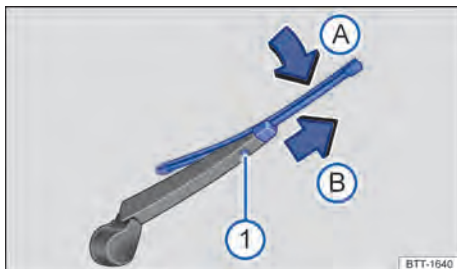

Fig. 181 At the rear of the vehicle: changing the rear window wiper blade.
① Release button.
2. Press and hold the release button → Fig. 181 ①.
3. Tilt the wiper blade in the direction of the wiper arm → Fig. 181 A and pull it off in the direction of the arrow B at the same time. You may need to use some force to do this.
4. Insert a new wiper blade of the same length and type onto the wiper arm in the opposite direction of the arrow → Fig. 181 B and push it on until it engages. The wiper blade must be in folded-down position to do this A.